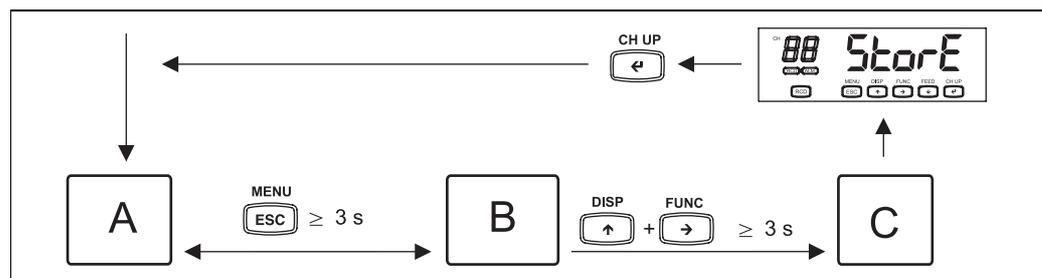

fig. 10: Execution modes
- Operation mode (→ Fig. 10, Pos. A):
- Setting mode (→ Fig. 10, Pos. B):
- Basic setting mode (→ Fig. 10, Pos. C):